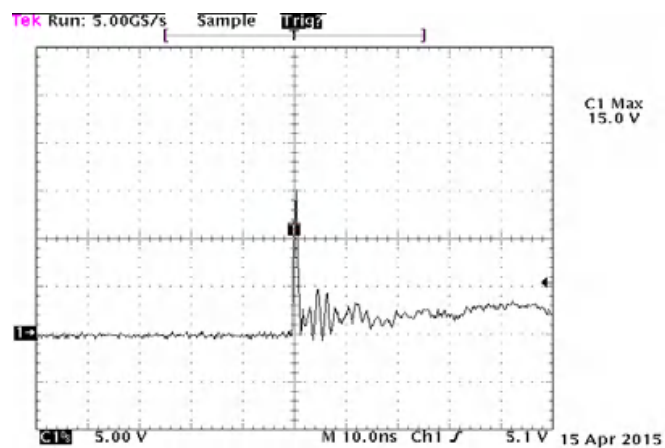

Figure 1. ESD Clamping Voltage Screenshot
** Surge current waveform per Figure 1.